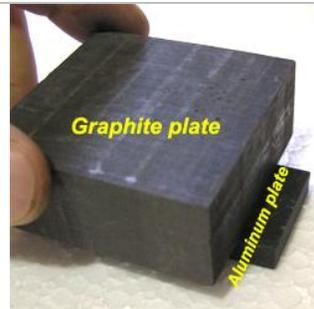

Fig. 1b
- (1) Place the 1" Aluminum plate onto a Hot Plate and heat it to 70~90C. Glue Buffer Plate (graphite, ceramic or glass) to the aluminum plate by low melting point (70C~90C) wax (Fig. 1b)